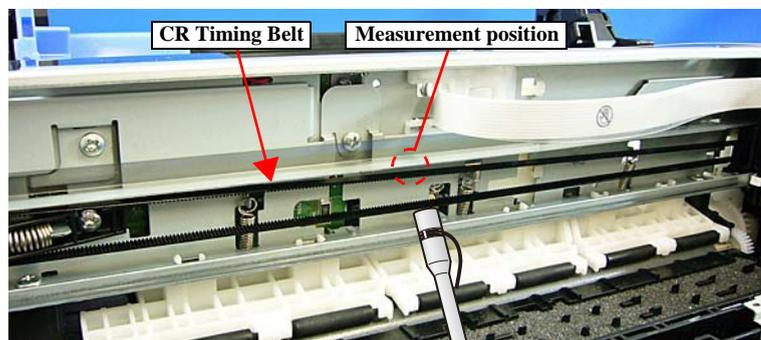

Figure 3-2. Checking the CR Timing Belt Tension
3. Bring the microphone of the sonic tension meter close to the position shown in Figure 3-2.